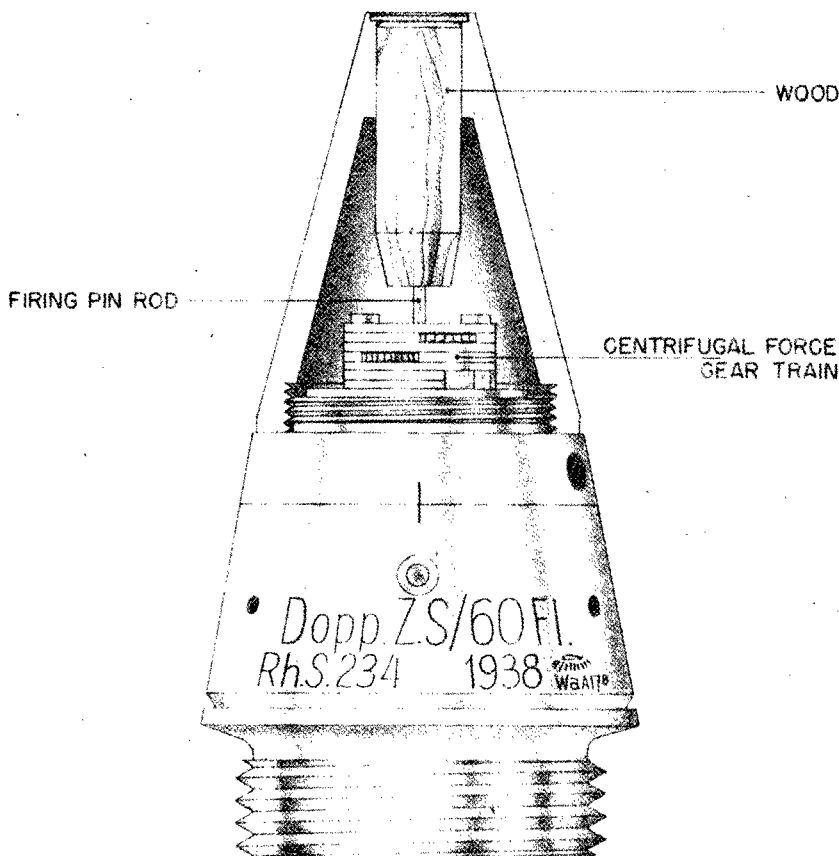

Figure 596—Dopp. Z. S/60 FI.
**EMPLOYMENT:** Mechanical time and/or impact nose fuse used in German 8.8-cm and 10.5-cm H. E. antiaircraft shells. (See fig. 596.)